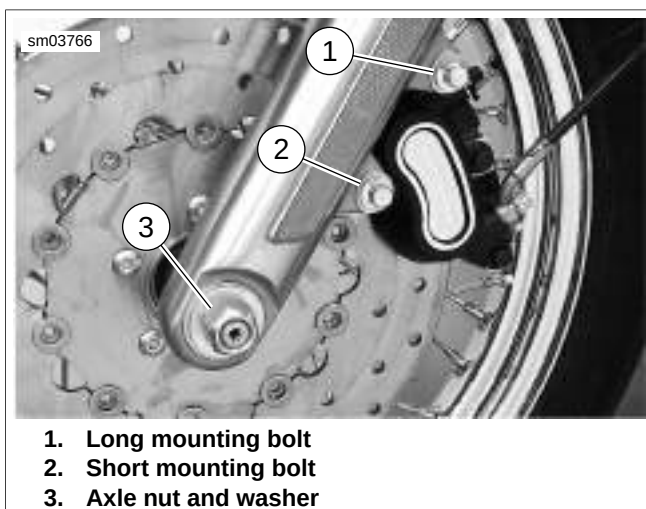

Figure 2-3. Front Caliper and Axle Mounting (Left Side)
3. See Figure 2-3. Remove mounting bolts (1, 2) and remove brake caliper. Support caliper using a rubber bungee cord.
6. See Figure 2-3. Install the brake caliper to the fork legs.
- a. Loosely install long mounting bolt (1) (metric) into top hole on fork leg.
- b. Install short mounting bolt (2) (metric) into bottom hole on fork leg. Tighten bottom mounting bolt to 28-38 ft-lbs (38.0-51.5 Nm).